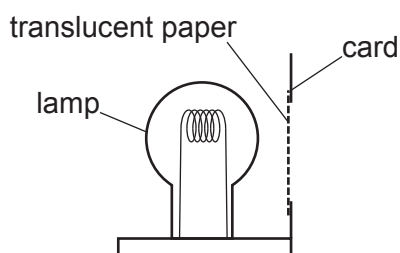
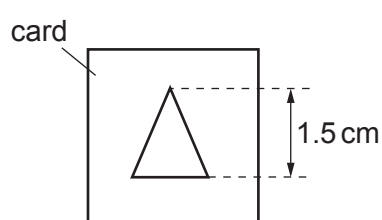

Fig. 3.1
Fig. 3.2
- (ii) Illuminated object with a triangular hole of height 1.5 cm. See Fig. 3.1 and Fig. 3.2.